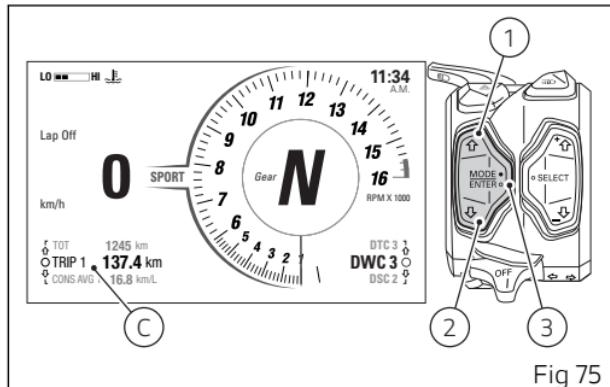

Fig 75
Trip information "TRIP 1" (C, Fig 75), "CONS. AVG 1", "SPEED AVG 1" and "TRIP 1 TIME" can be reset by pressing the ENTER button (3) when selected: the message "RESET?" is displayed instead of the data. To cancel press button (1) or (2), to confirm press the ENTER button (3).